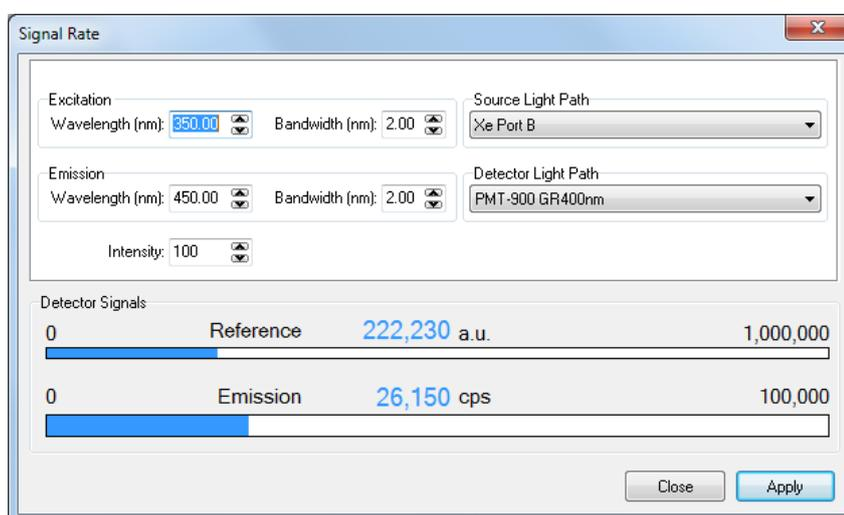

Figure 5-1: Signal Rate window for setting up spectral measurements
- 1) Use the **Signal Rate** dialogue box  (Figure 5-1) to select excitation source (Source Light Path) and emission detector (Em Detector Light Path) and to prepare for a measurement. Note, bandwidth and intensity attenuator can only be setup there and not in any other spectral scan dialogue box.